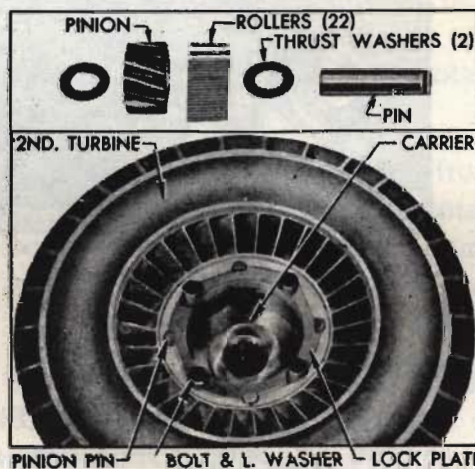

Fig. 28. Second turbine parts
3. Remove the four bolts, lockwashers and pinion pin lock plate from second turbine (Fig. 28). Do not remove turbine from carrier at this time.
4. Remove the four planet pins, four planet pinions and thrust washers from carrier. Remove 22 needle bearing rollers from each pinion (Fig. 28).
8. Install the pinion pin lock plate so that it enters notches of all pins. Install four turbine to carrier bolts and lockwashers (Fig. 28).